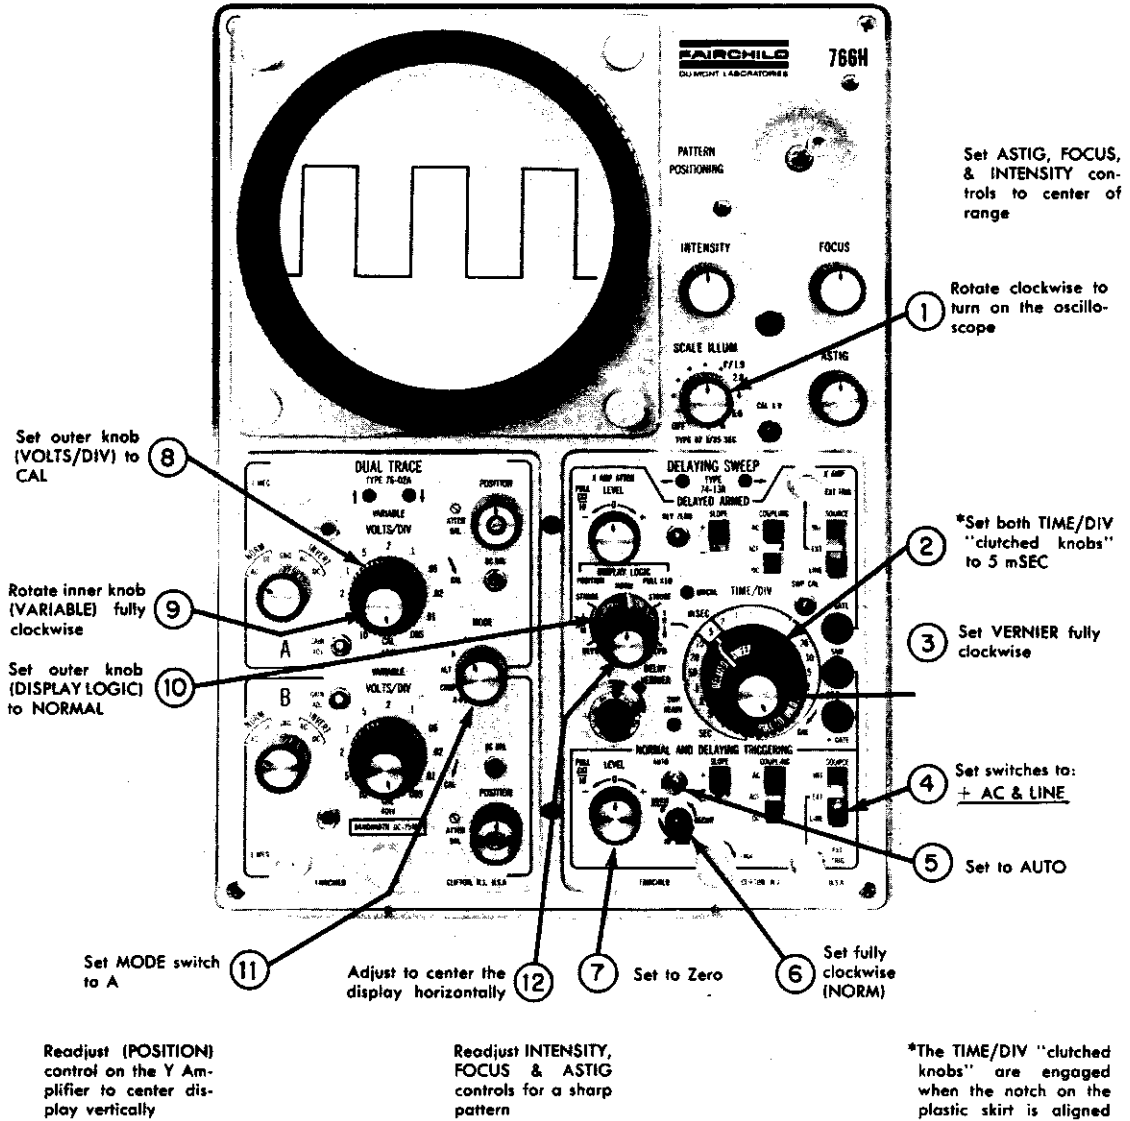

Figure 2-2. Type 74-13A Normal Display
- Figure 2-2 Type 74-13A, Normal Display
This is a continuation of the initial setup of Figure 2-2. Set the controls exactly as shown and perform the numbered steps in sequence
When the DISPLAY LOGIC switch is set to NORMAL, only the NDT Time Base is displayed. Triggering is derived from the displayed signal internally or line. External signals may be applied to the lower EXT TRIG connector. Refer to Figure 2-2.
1. Set up the instrument for normal display of the CAL signal. Allow a warmup time of 15 minutes. (See Figure 2-2.)